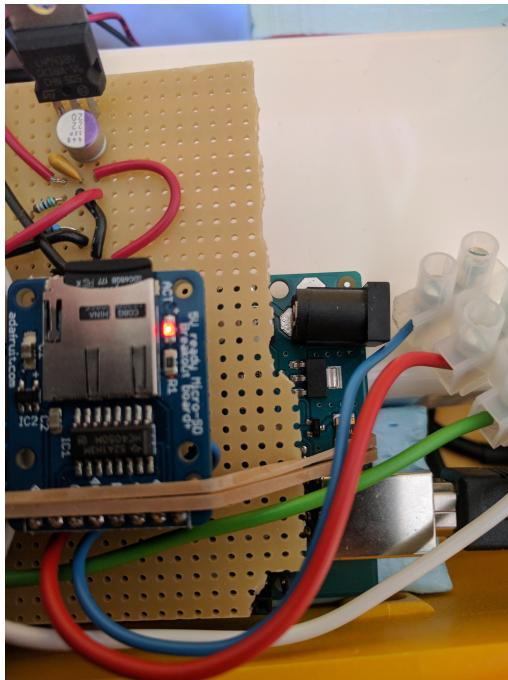

Figure 1: The SD card reader, with the inserted SD card (format mini). The SD card LED is active.
- Make sure that the SD card is present in the SD card reader (see Fig. 1).
blinking or not blinking at all, see the troubleshooting section. For a view of the LEDs, see Figs. 1 and 4